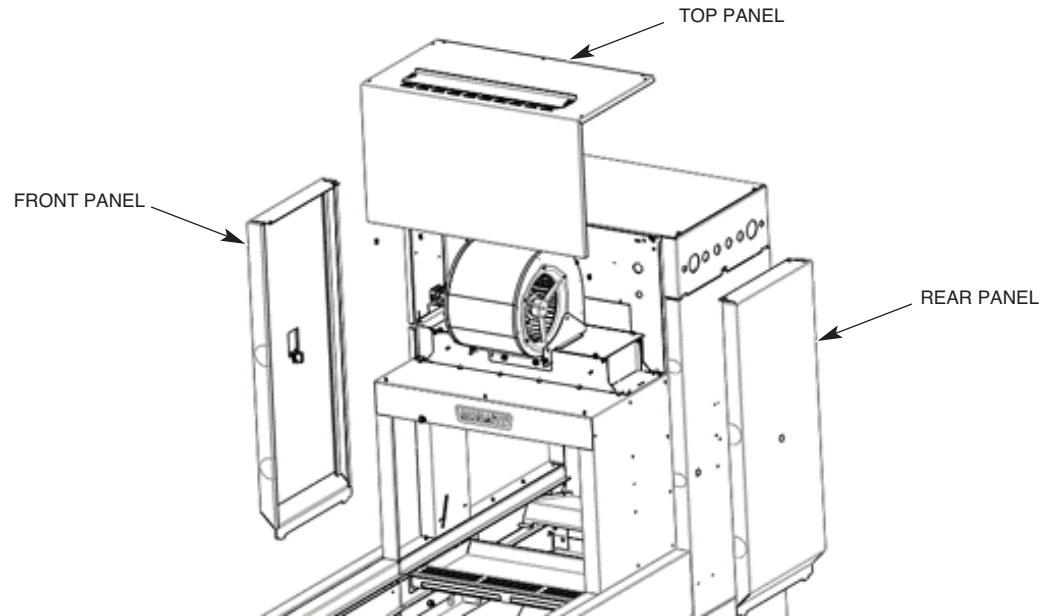

Fig. 20
1. Remove the blower dryer cover panels; front, rear, and top (Fig. 20).